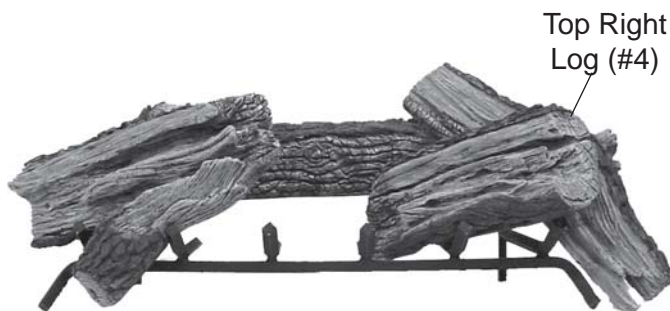

Figure 141 - Placing Top Right Log (#4)
5. Place Top Right Log #4 on Bottom Right Log #2 resting on grate. *See Figure 141.*